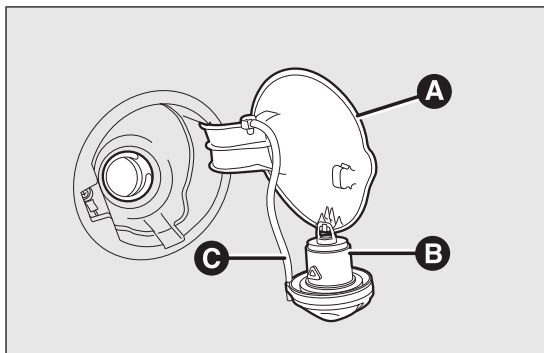

fig. 102
1) Open the flap A fig. 102 by pulling it outwards, keep the cap B fig. 102 still, insert the ignition key in the lock and turn it anticlockwise.
The cap has a device C fig. 102 that attaches it to the flap so it cannot be lost. When refilling, attach the cap to the flap, as illustrated.